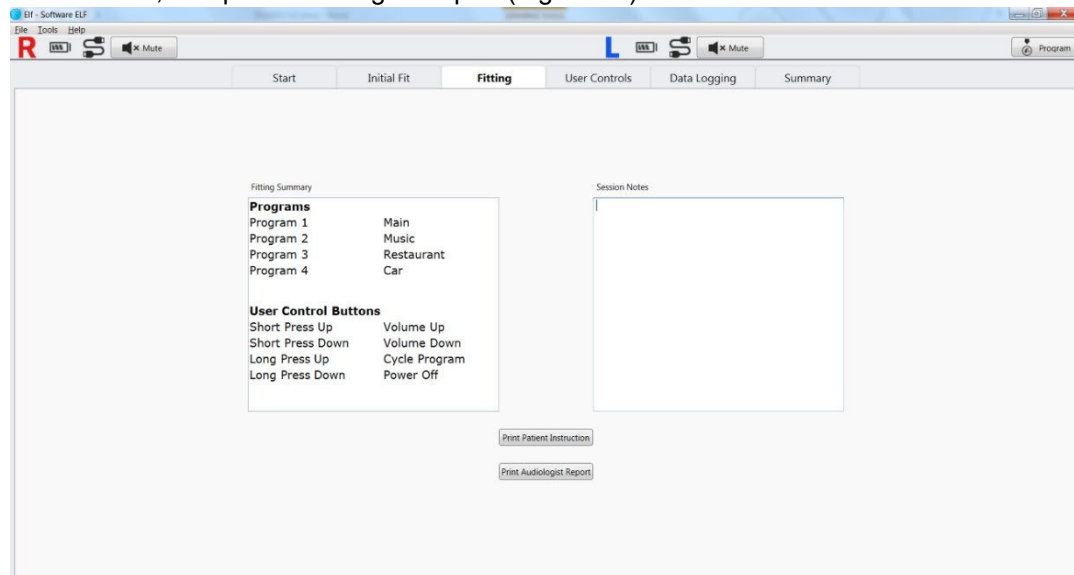

Figure 17: Summary screen
- **Summary:** View the summary of the fitting session, enter session notes, print Patient Instructions, and print Audiologist Report (Figure 17).